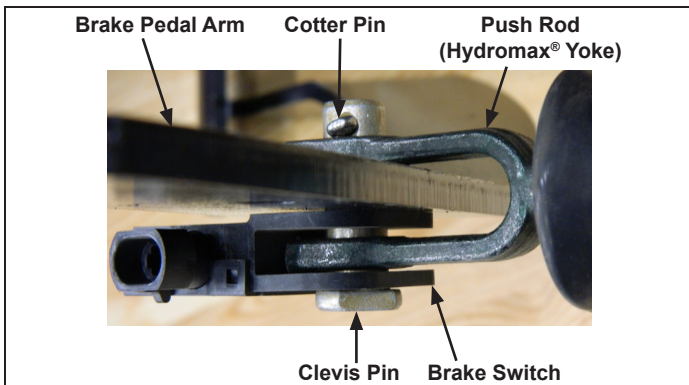

Figure 1 – Brake Pedal Components
See *Figure 1*.
**NOTE:** The pivot shaft is not shown in *Figure 1*.
**NOTE:** The pivot shaft is not shown in Figure 1.
See Figure 1.